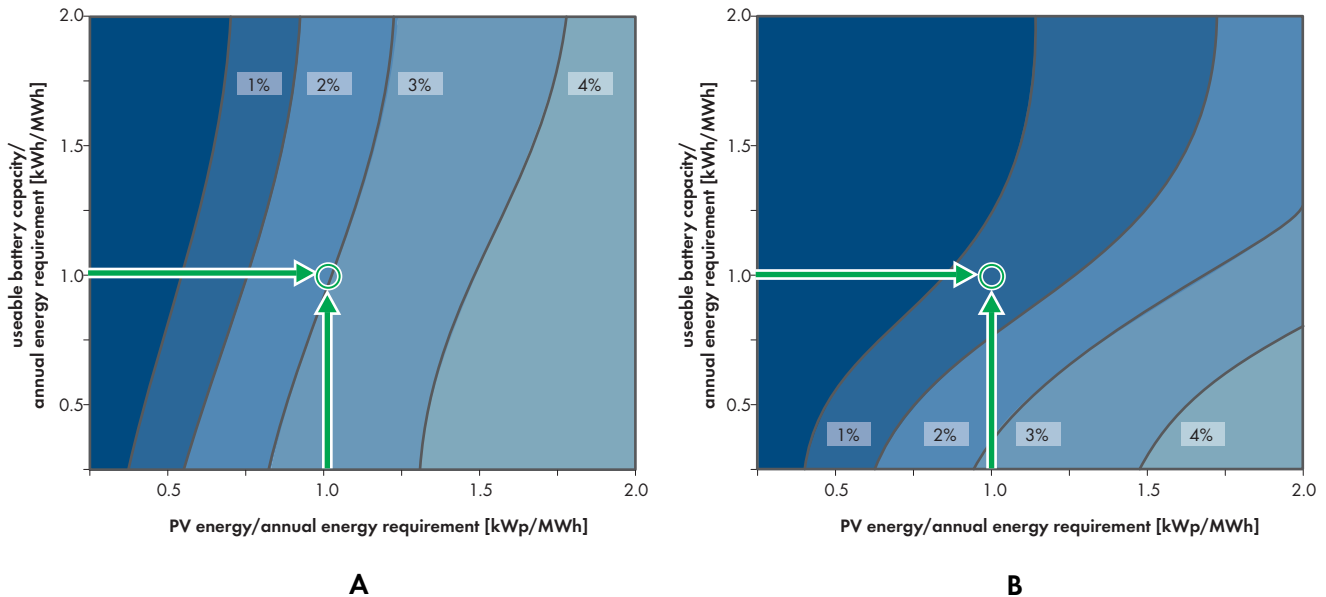

Figure 18: Annual percentage losses based on the PV generation with limitation of grid feed-in to 60% - without (A) and with (B) forecast-based battery charging
- Without forecast-based battery charging, 135 kWh of the generated PV energy is derated - this equals 3% of 4500 kWh (see Figure 18 A)
- With forecast-based battery charging, only 67 kWh of the generated PV energy is derated - this equals 1.5% of 4500 kWh (see Figure 18 B)